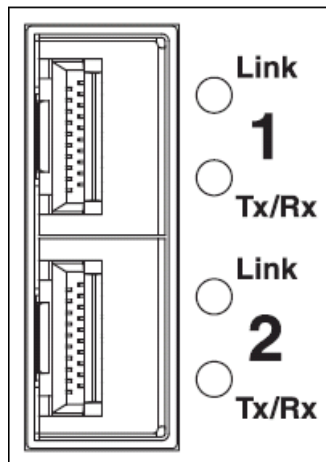
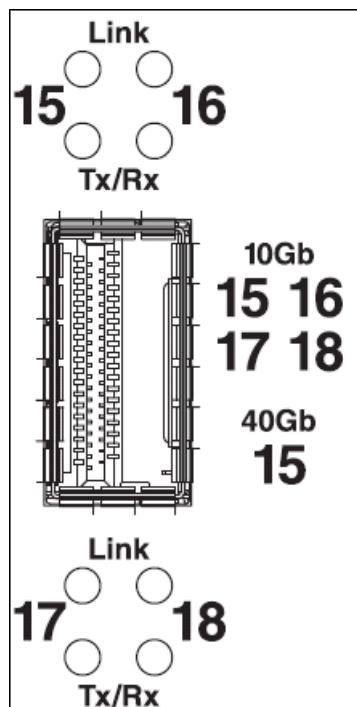

Figure 8-5 SFP+ port LEDs
Figure 8-6 QSFP+ port LEDs
- ▶ Enhanced small form-factor pluggable (SFP+) and quad small form-factor pluggable (QSFP+) module port LEDs (shown in Figure 8-5 and Figure 8-6 on page 193).